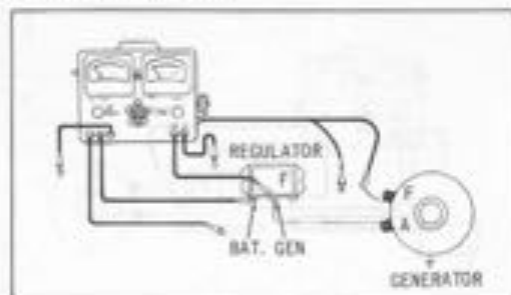

Figure 51-11.
B. TESTER CONNECTIONS (See Fig. 51-11)
D. TESTING CUTOFF RELAY UNIT CLOSING VOLTAGE (Fig. 51-11)